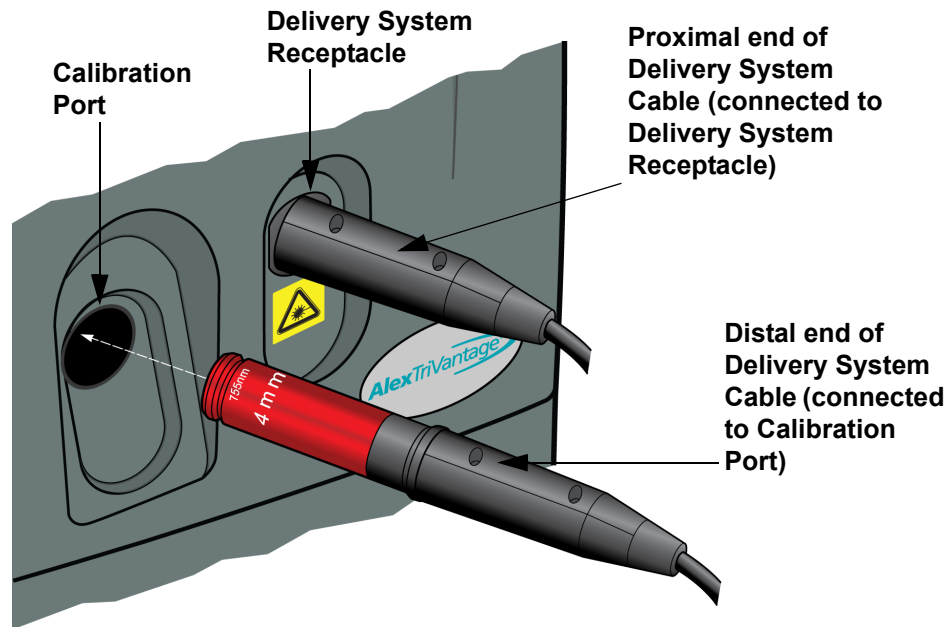

Figure 3-3: Insert the Handpiece into the Calibration Port
3. Insert the Handpiece into the Calibration Port. The connectors are keyed and have orientation marks to help you align the connectors correctly (see **Figure 3-3**).